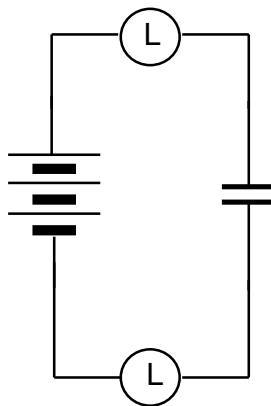

Figure 4.5b
2. Figure 4.5b shows the capacitor after it has been charged. Draw (+) signs by the plate that has gained charge, and (-) signs by the plate that has lost charge.
Next, imagine that you have opened the circuit and placed a second battery pack in the loop as shown in Figure 4.5b. Don't actually do this right now. Just think about what might happen if the already-charged capacitor is suddenly connected to a stronger battery with 6 cells.
Now add the second battery pack as shown in Figure 4.5b, with the positive end of one battery pack connected to the negative end of the other one. Make sure the compass is under one of the wires.